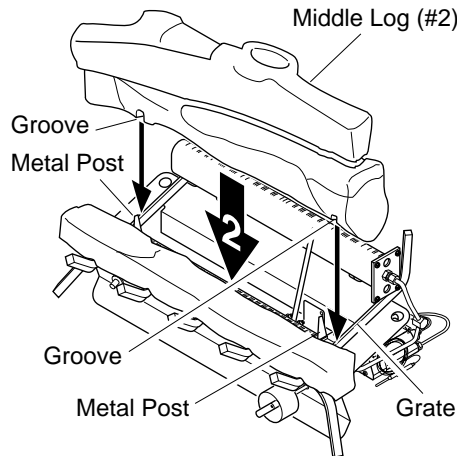

Figure 17 - Installing Middle Log (#2)
2. Rest middle log (#2) behind metal posts on front burner. Make sure the grooves in the bottom of the log fit over the grate. Bring the log forward next to the metal posts. The cut-out on the middle log must be on top (see Figure 17).